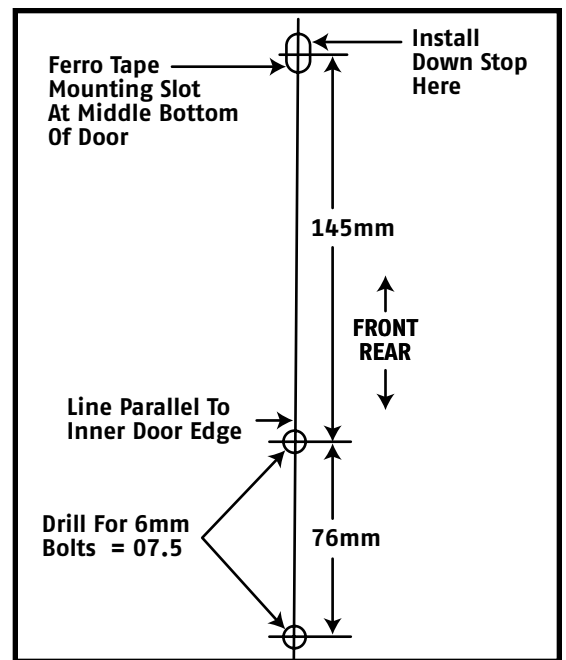

Fig. 1 - 1984-86, 87 Coupe Drilling Dimensions
- Step 2. Drill two holes for 6mm bolts in bottom of door as shown in Fig. 1.
- Step 4. Install rubber downstop in slot in bottom of door. (See Fig. 1)